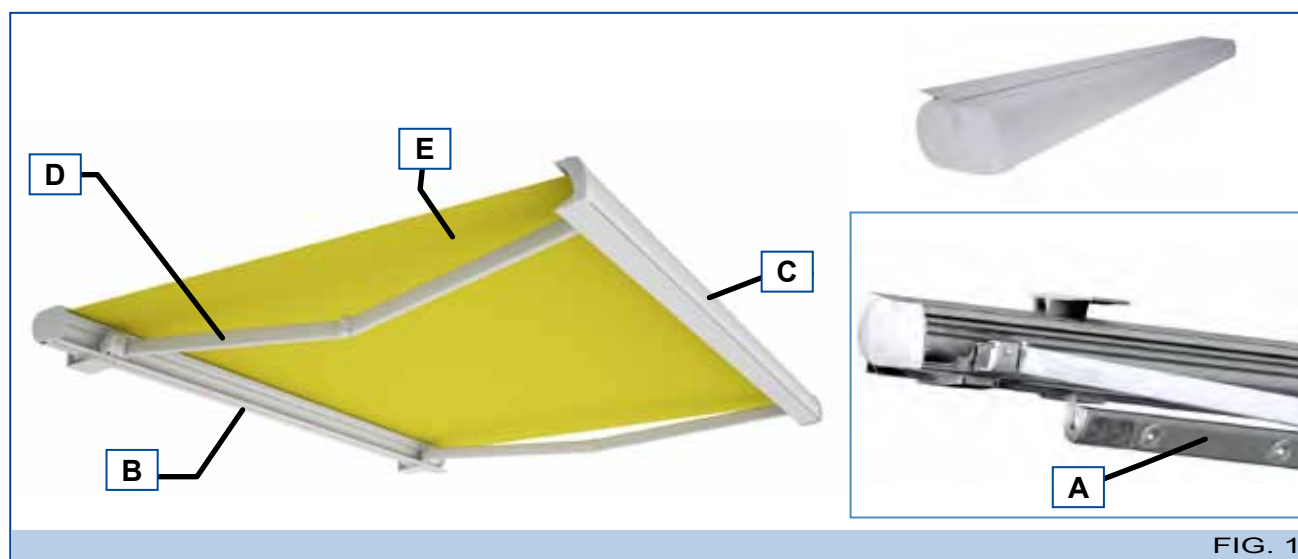

FIG. 1
The **Armony Plus** sun awning with extensible arms can be installed either on a wall or ceiling, with manual or motorized operation. In the latter case, on request it is possible to install the wind sensor, the rain gauge, the twilight sensor and the emergency override. A lighting kit is also available on request (A - Fig. 1).
- **Metallic structure:** this is the load bearing frame which contains the various mechanisms for opening and closing the awning. It comprises a box for full retraction of the unit (B - Fig. 1), a cassette profile (C - Fig. 1), mechanical extensible arms (D - Fig. 1) equipped with sheathed wires or a stainless steel chain and a rewinder tube.
- **Canvas (E - Fig. 1):** to cover and protect the awning.